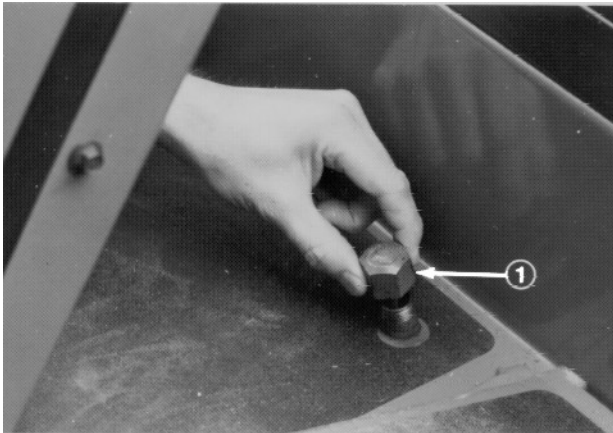

Figure 5
2. Remove the dipstick cap (Fig. 5) from filler neck and wipe it with a clean cloth. Screw the dipstick cap finger-tight onto filler neck; then remove it and check the level of fluid. If the level is not within 1/2 inch (13 mm) from the groove in the dipstick (Fig. 5), add SAE 10W–30 engine oil, or, if used, automatic transmission fluid to raise the level to groove mark. Do not overfill.